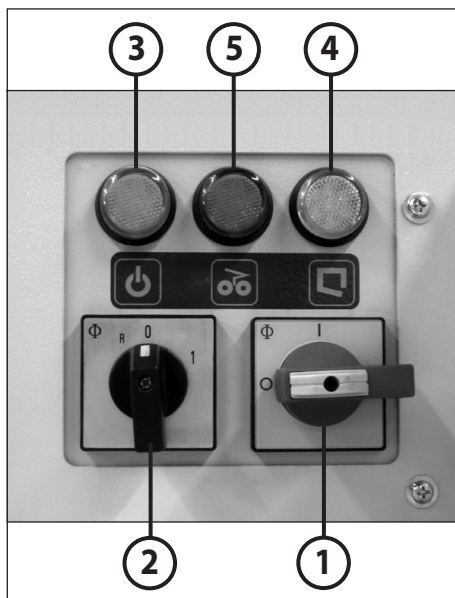

fig. 11
1. Switch on the main switch (1) (fig. 11); i.e. to position „1“.
2. Place rotary switch (2) (fig. 11) in position „1“.
OPERATING FUNCTIONS (fig. 11):